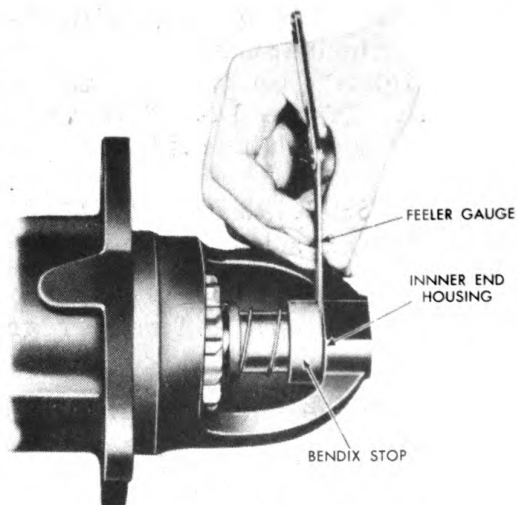

Figure 261. Checking Armature End Play.
3. Check the armature end play. With a feeler gauge, check the clearance between the Bendix stop and the inner side of the pinion housing and bearing with the armature in its two extreme positions. Do not compress the Bendix drive spring. See Figure 261. The end play will be the difference between the two clearances. If the end play is not within .005" to .030", remove the commutator end head and change the fibre washer to one of the following: 1/32" thick, 1/64" thick, or 3/64" thick.